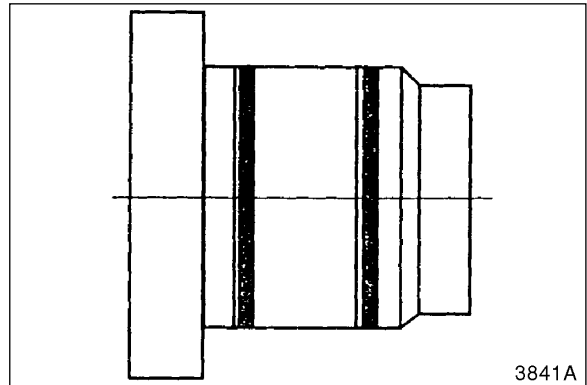

Figure 22
8. Install an O-ring over each of backup rings. See Figure 22.